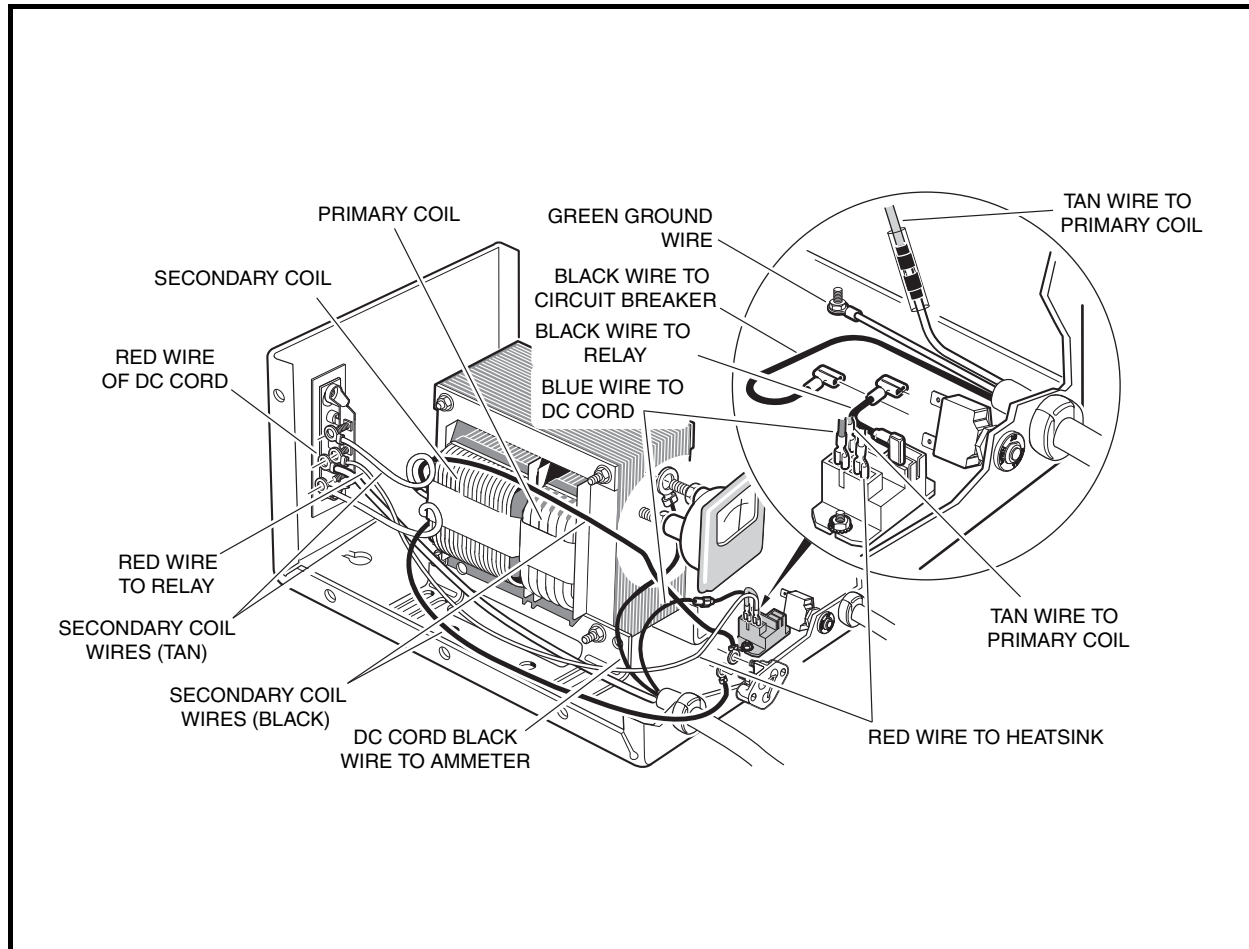

Figure 8-6 IQ Plus Battery Charger
6. Remove the DC cord blue wire from the red wire connected to the charger relay and check continuity between the positive and negative pins and middle pin on the DC plug (**Figure 8-5, Page 8-9 and Figure 8-6, Page 8-12**). There should be no continuity.